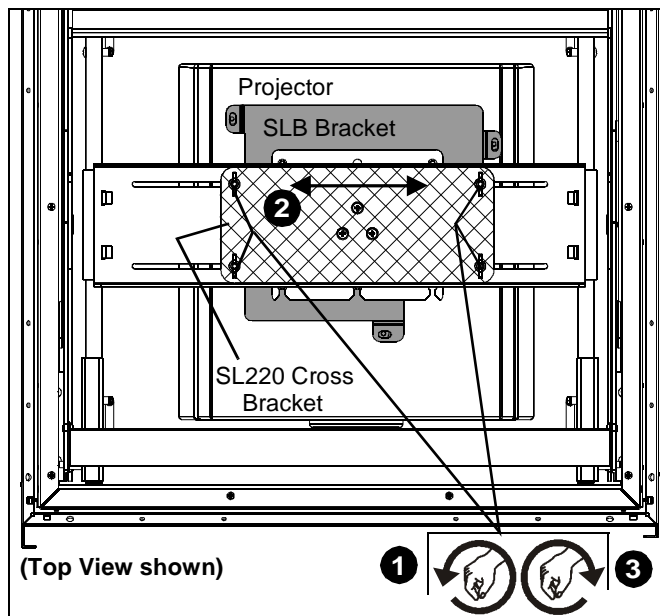

Figure 22
1. Adjust projector left or right by loosening the wing nuts on the SL220 cross bracket. (See Figure 22)
3. Tighten wing nuts. (See Figure 22)